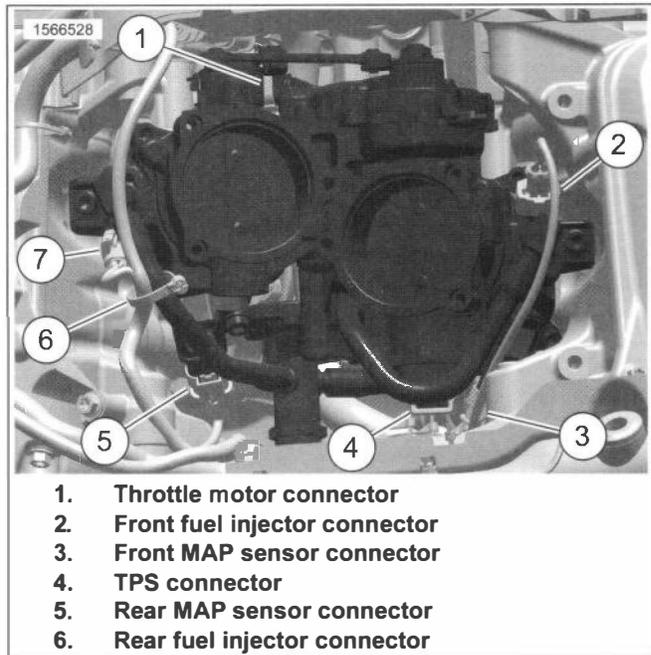

Figure 6-30. Induction Module Connectors
1. See Figure 6-30. Disconnect induction module connectors.
2. See Figure 6-30. Install connectors.